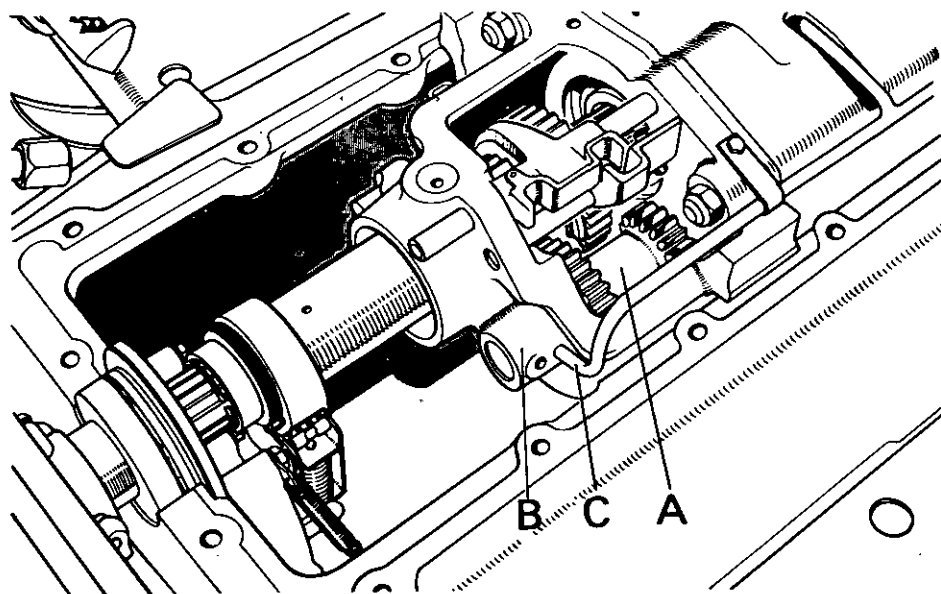

Figure 4. OIL FEED PIPE — 12-SPEED GEARBOX
10. Replace gearbox lubrication pipes, ensuring that the front pipe is correctly positioned: on 6-speed models the front pipe must be positioned to direct oil on the clutch stop drum but on 12-speed models the front pipe must be fully inserted into front end-plate hole so that auxiliary reduction lay shaft is pressure lubricated (there is no direct feed to the 12-speed clutch stop as the auxiliary reduction unit provides adequate oil splash). (Fig. 4).